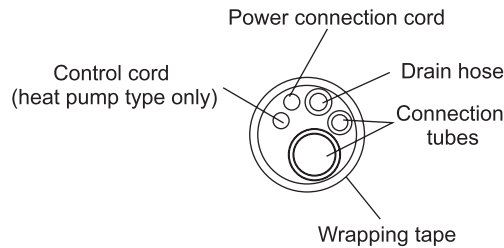

Figure 6
2. After wrapping the connection tubes and wire, put them through the wall piping hole. (Figure 6)